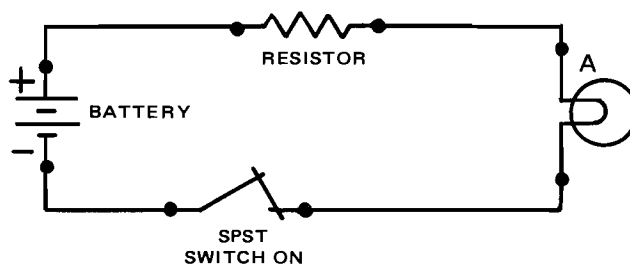
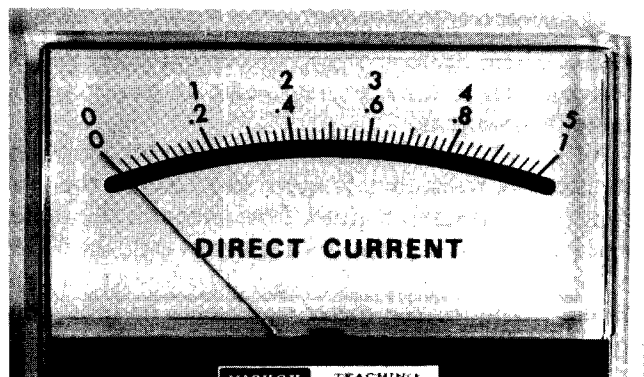

Fig. 4-2-2
Fig. 4-2-3
6. Fig. 4-2-2 shows a symbol drawing of a simple electric circuit. To measure current flow at test point A, redraw circuit in blank space provided, showing ammeter properly connected. Indicate correct polarity of meter in your drawing.
7. If meter of redrawn circuit indicated 4 mA with range switch in 5 mA position, where would indicating hand be deflected? Draw meter hand deflection on meter scale of Fig. 4-2-3.
8. If voltage of battery of Fig. 4-2-2 was increased, a current value of 23 mA could occur. Which range would best display this value on your VOM? _____ range. Draw hand deflection that will show this current value on correct scale of meter shown in Fig. 4-2-3.
9. If same lamp circuit had a current flow of 62 mA, which range would be used? _____ Mark this value on meter scale of Fig. 4-2-3.